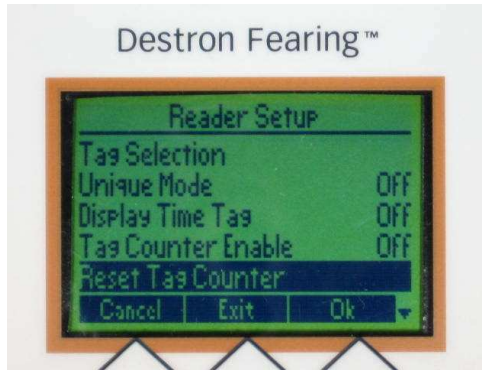

FIG. 69: Reader Setup Screen
1. Press the UP/DOWN Arrow Keys on the Reader Setup Screen and highlight the "Reset Tag Counter line". See Fig. 69.